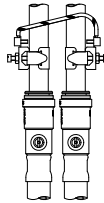

Fig. 10
- 4.15 **Adjacent pipes:** Adjacent suction and delivery pipes should be fitted with earthing clamps to and connected with earthing wire size 4 mm² (Fig. 10).